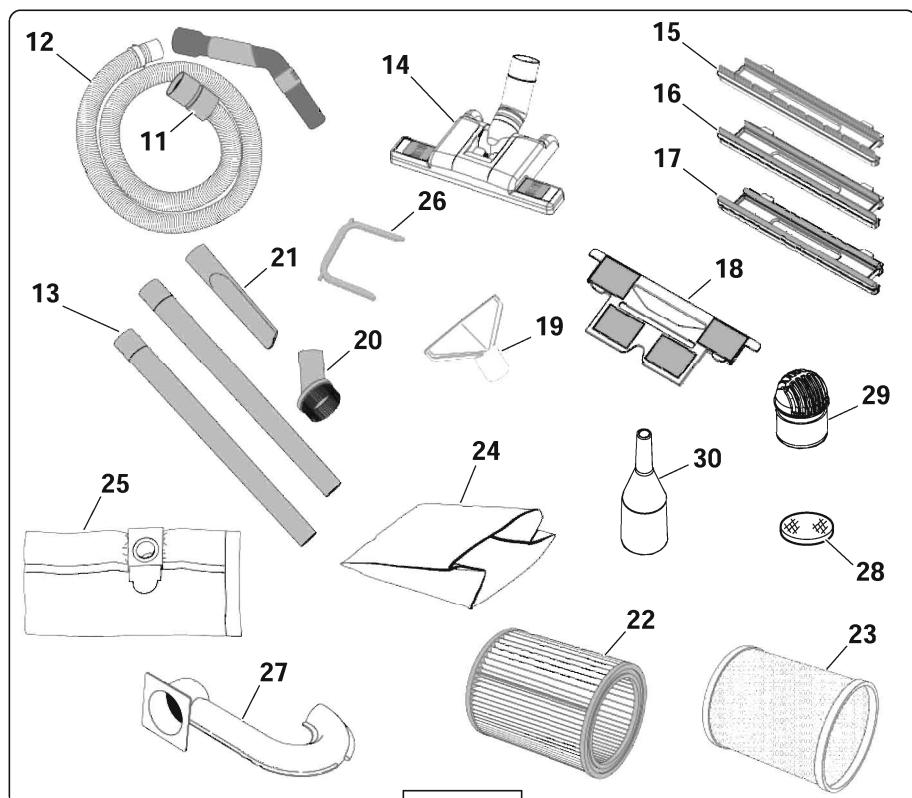

Fig. 03
Supplied accessories (fig. 03) :
FLEXIBLE TUBE (fig. 03 - pos. 11) - Insert the flexible tube into the suction tube connector (fig. 04). The locking system will allow rotation of the tube to permit an easier manoeuvrability.
HAND GRIP (fig. 03 - pos. 12) - With simplicity it is possible to manually adjust the air flow that emits from the ring nut. (fig. 05).
EXTENSION TUBES (fig. 03 - pos. 13) - To obtain maximum practicality and comfort of use, you can use 1 or 2 extension tubes. All the accessories can be directly added to both the extension tubes and hand grip.
UNIVERSAL BRUSH (fig. 03 - pos. 14) - To vacuum both solid and liquid dirt on any type of surface, simply change the appropriate Cleaning Head.
SMALL MULTIPURPOSE NOZZLE (fig. 03 - pos. 19) - Useful for vacuuming soft surfaces such as lounges, mattresses, cushions, car seats etc.
TUBE BRUSH (fig. 03 - pos. 20) - Useful for dislodging and vacuuming dust on all surfaces, furniture, frames etc.
EXTENSION FOR CORNERS (fig. 03 - pos. 21) - To vacuum in corners or difficult places such as behind radiators, skirting boards, shutters, corners etc.
MOTOR AIR FILTER (fig. 03 - pos. 22) - The motor air filter should always be used to vacuum dry/solid dirt (refer to Third and Fourth Method of Use).
NET FILTER FOR LIQUIDS (fig. 03 - pos. 23) - The use of this filter is essential to vacuum the wet dirt and the solid/dry dirt (refer to First and Second Method of Use).
AIR FILTER PROTECTION BAG (fig. 03 - pos. 24) - This protects the motor air filter and for this reason the use is necessary, especially if dusty or bulky debris is to be vacuumed (see Third Method of Use).
ECOLOGICAL DUST BAG (fig. 03 - pos. 25) - A spacious bag for the collection of dust which keeps the collection tank clean (see Fourth Method of Use).
HOLDING BRACKET ACCESSORY FOR WASTE FILTER PIPE AND ECOLOGICAL DUST BAG (fig. 03 - pos. 26) - This bracket is needed to hold the waste filter pipe and the ecological dust bags in place.
WASTE FILTER PIPE (fig. 03 - pos. 27) - The use of this accessory allows both wet and dry vacuuming simultaneously (see First and Second Method of Use).
AIR OUTLET FILTER (fig. 03 - pos. 28) - For maximum efficiency, you are suggested to clean the filter regularly: Remove it from the cap, wash it under running water and leave it to dry before repositioning it into the blowing air output cap.
BALLOON INFLATOR (fig. 03 - pos. 30) - Use this accessory onto the hand grip for inflating balloons by the blowing air output.
WARNING: To vacuum both liquid dirt and dry/solid dirt, you need to use the net filter for liquids (fig. 03 - pos. 23).